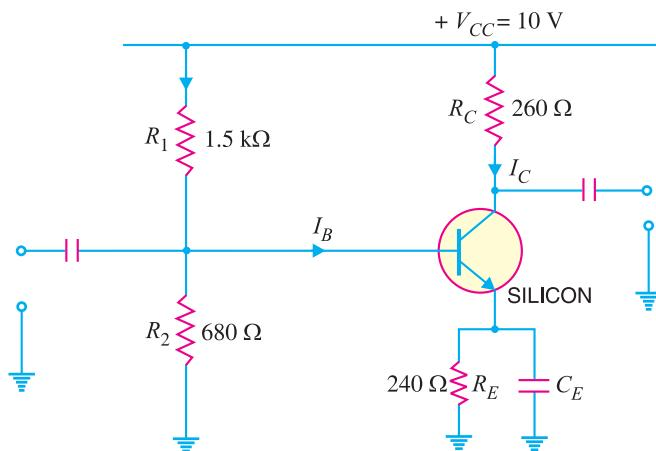

Fig. 9.40
**Example 9.32.** Find the value of  $I_B$  for the circuit shown in Fig. 9.40. Given that  $\beta$  has a range of 100 to 400 when  $I_C = 10$  mA.